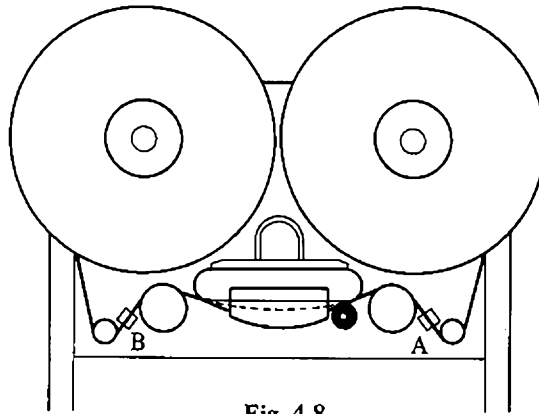

Fig. 4.8
- 2) Insert the tension gauge at point "A" (shown in Fig. 4.8) and set R3 (EDIT-T. UP) for the reading of tape tension of 120g. Next, insert the tension gauge at point "B" and set R4 (EDIT-SUPPLY) so that the reading of tape tension is 120g.
4.2.6.9 Checking the Tape Tension (refer to Fig. 4.8)